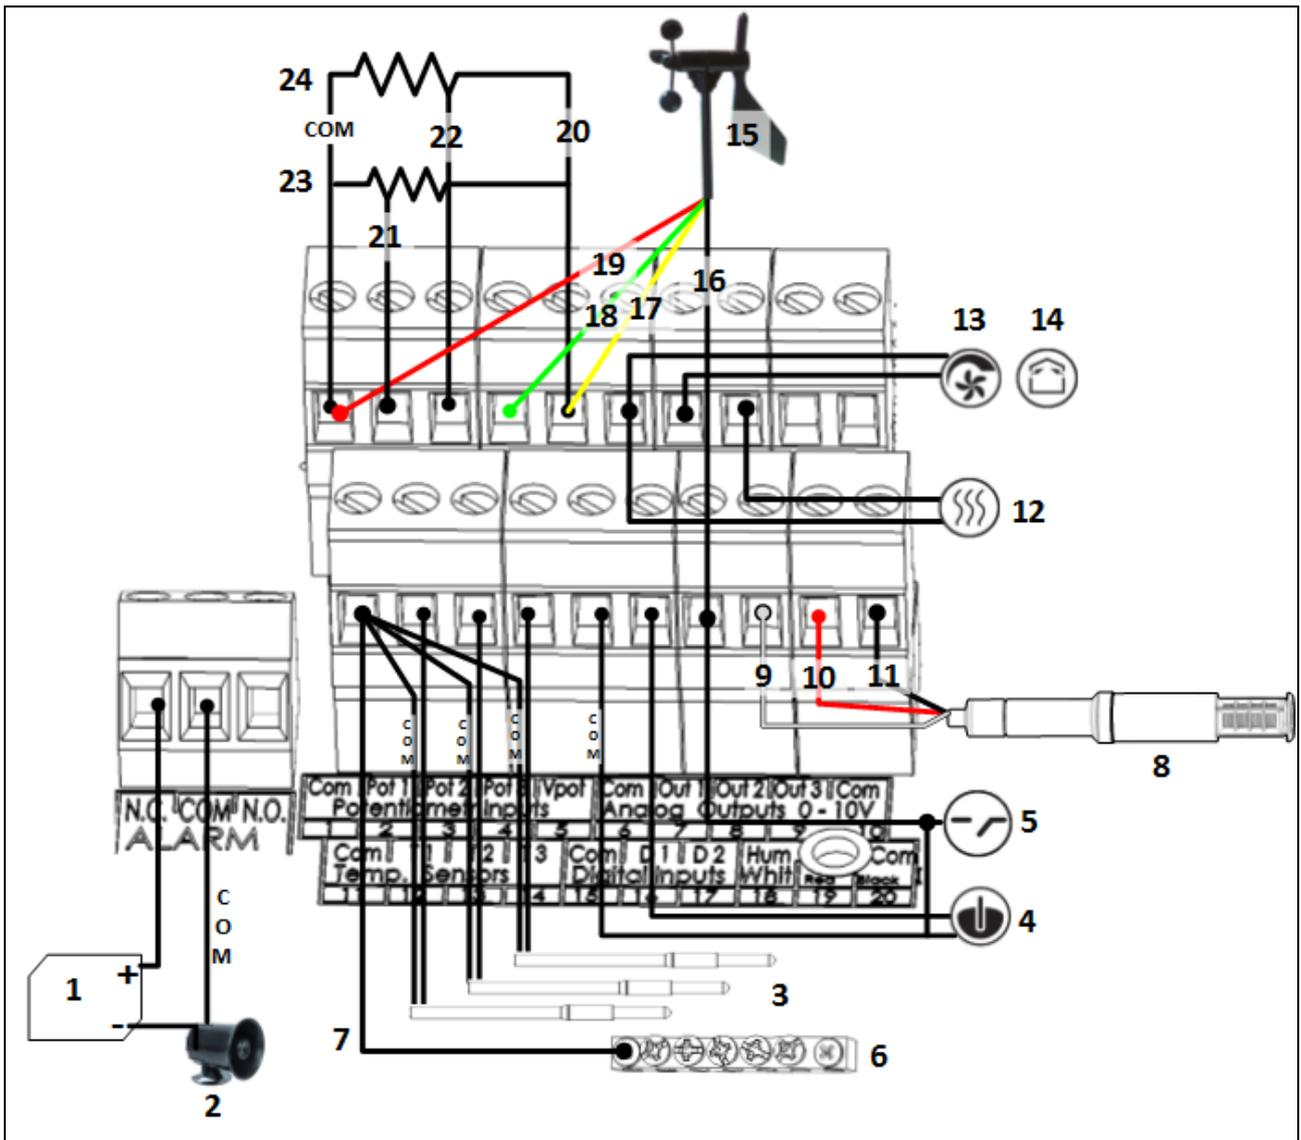

Figure 3: Smart C Wiring Diagram of Low Voltage Section
- Figure 3: Smart C Wiring Diagram of Low Voltage Section
Figure 3 key